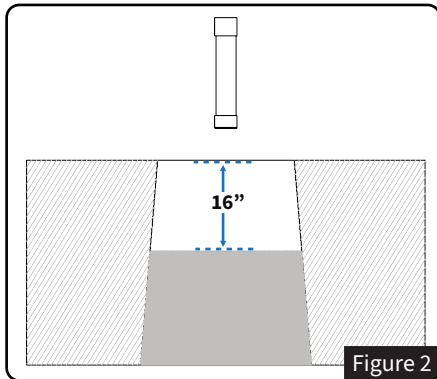

Figure 2
- Mix concrete and fill each hole until the concrete is **16" below** the playing surface. See *Figure 2*.